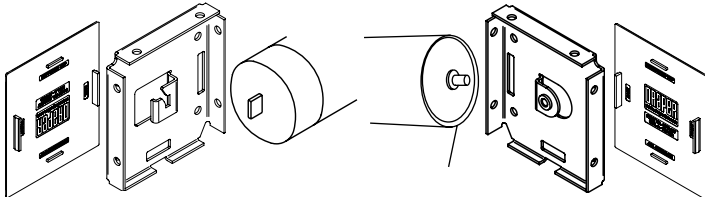

Figure 4
- ⑬ For installations with fascia, mount endcaps according to type of installation. Use appropriate fasteners for wall, jamb, or ceiling (see Fig. 4). **The installer is responsible for selecting mounting hardware appropriate for site conditions.** Snap end covers onto endcaps.
- ⑭ Install shade using steps 2 and 3 from above (see Fig. 4).